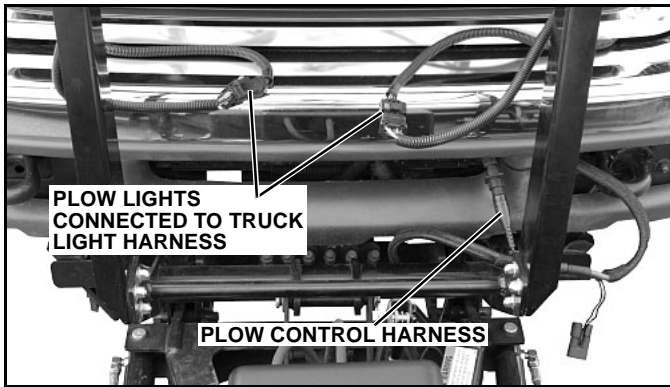

Figure 1-26
9. Plug plow light connectors into mating connectors on truck light harness. (See Figure 1-26).